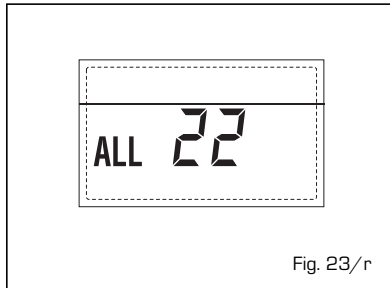

Fig. 23/r
- **ANOMALIA GUASTO SONDA MANDATA SECONDA ZONA MISCELATA "ALL 23" (fig. 23/s)**